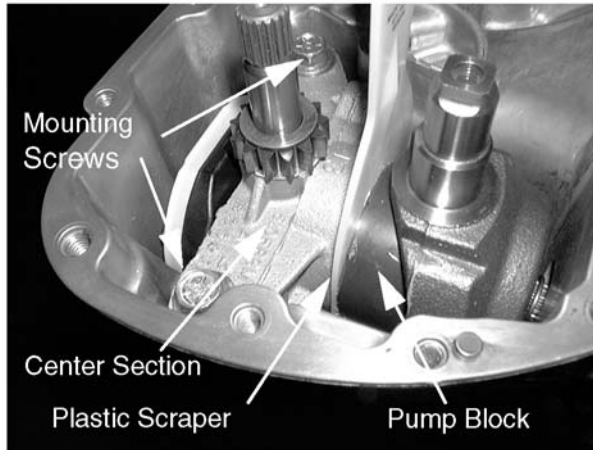

Figure 6-64.
26. Slowly insert a smooth scraper between the pump block assembly and the upper face of the center section. See Figure 6-64.